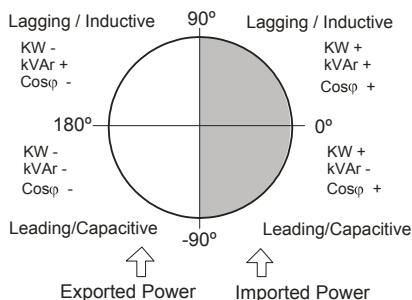

Fig. 2.1.- Power signs in four quadrants measurements
- Four quadrants control (see fig.2.1) , display of the connected stages, of  $\cos\phi$  and active and reactive power signs (inductive  $\sim$  or capacitive  $\dashv$ )